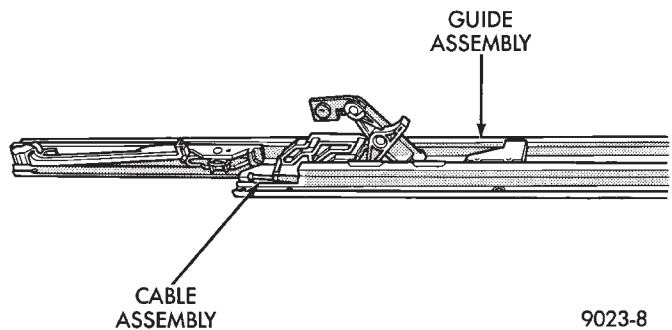

Fig. 9 Guide Assembly
- (1) Remove wind deflector, mechanism covers, glass panel, drain channel, sunshade and drive cable locator as necessary.
- (2) Move glass carriage to vent position.
- (3) Remove front slide from guide assembly.
- (4) Remove screws holding front and center guide track to unit.
- (5) Pull cable out of groove for cable end.
- (6) Pull guide outward to release from housing. Separate rear end of guide from clips. Slide guide out of unit (Fig. 9).